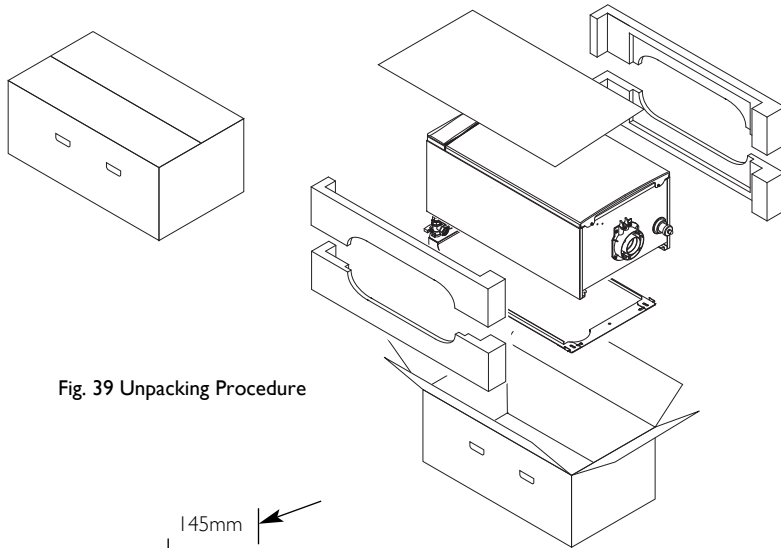

Fig. 39 Unpacking Procedure
1. Remove staples, open flaps and remove cardboard sheet. Remove the polystyrene side pieces and literature. Two people can then lift out the boiler (Fig. 39).